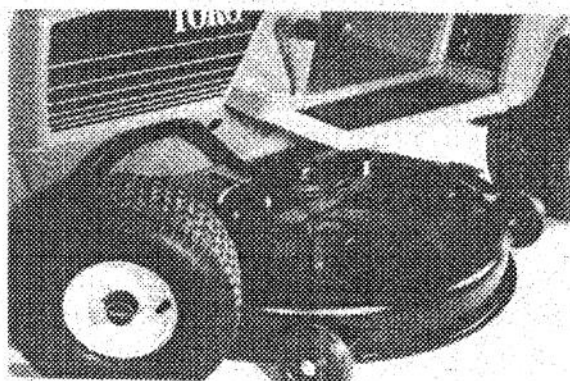

Figure 33
2. Set the cutting unit down on the wheels and rollers and slide the cutting unit (front end first) under the tractor (Fig. 33).
3. Insure the height-of-cut lever is in the lowest height setting. Position the cutting unit so the parallel links bisect the front brackets on each side and insert the clevis pins into the bracket holes from the inside toward the outside (Fig. 33).